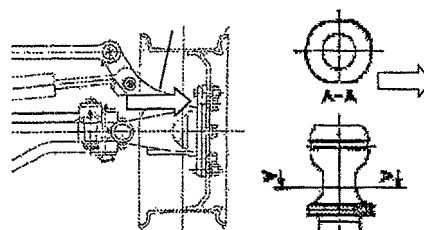

Fig. 6
Precaution ②: Match the direction of the width across flat section of the flange of the stud to the right angle direction to the tire (in parallel to the tie-rod). (Refer to Fig. 6.)